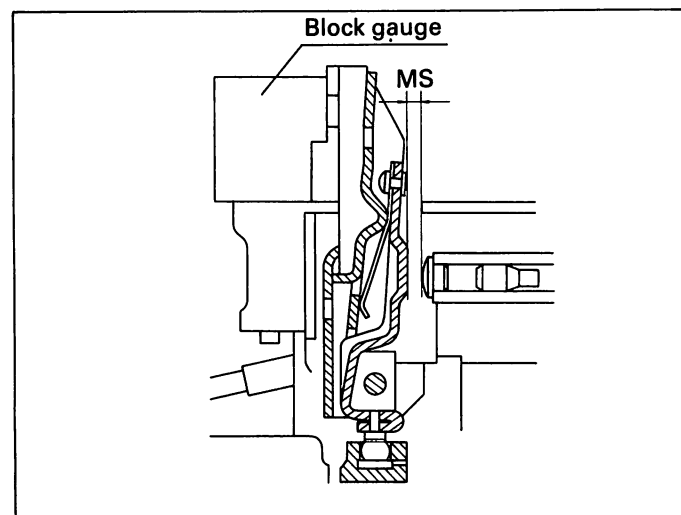

Fig. 86 "MS" dimension
- The starting stroke, which determines the quantity of fuel required for starting, is the distance between the closing plug (117) in the governor sleeve (115) and the end face of the starting lever. (Fig. 86)